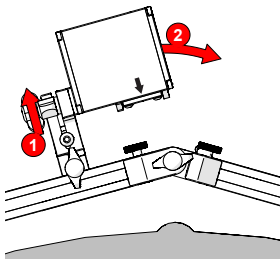

Fig. 26 - Loosen the tracker pivot knob to pivot the tracker
2. Loosen the Tracker pivot knob **1** (Fig. 26) to pivot the Tracker module **2** (Fig. 26).